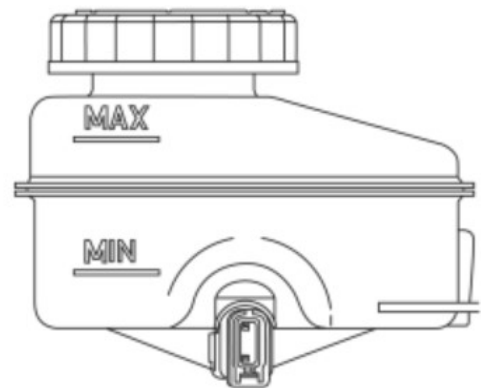

Figure 12
11. Bleed the brakes per the ESM and verify brake fluid level in master cylinder is within MIN/MAX range. (Figure 12)